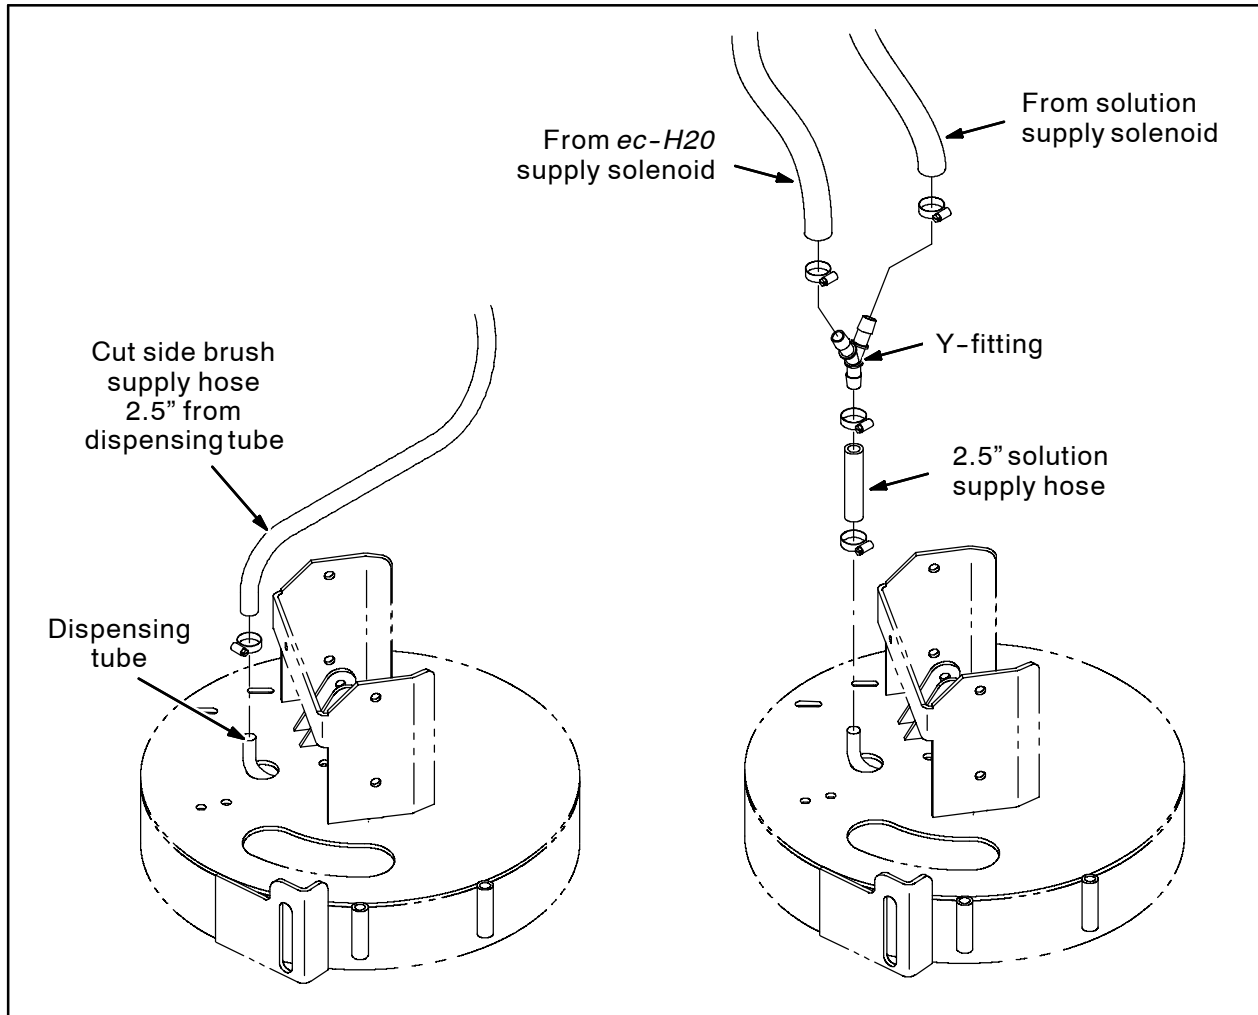

FIG. 5
26. Cut the solution supply hose 2.5" from where the hose is connected to the dispensing tube. Refer to Fig. 5.
27. Use a hose clamp to connect the y-fitting to the 2.5" solution supply hose. Refer to Fig. 5.
28. Use a hose clamp to connect the hose from the solution supply solenoid to the y-fitting. Refer to Fig. 5.
29. Use a hose clamp to connect the 20" PVC hose from the solenoid to the y-fitting. Refer to Fig. 5.